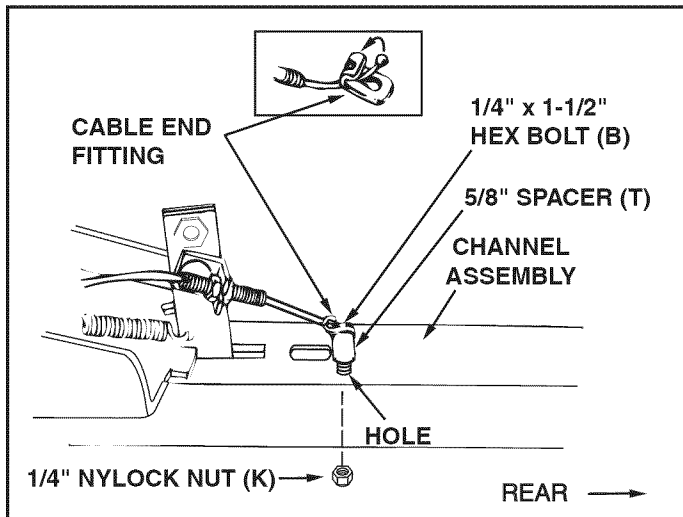

**FIGURE 19 (Left Hand Side View)**
**STEP 5: (SEE FIGURE 19)**
- Assemble one 5/16" jam nut (J) approximately 3/4" onto threaded end of control cable that has no rubber cap or preassembled nuts. Assemble threaded cable end through round hole in cable mount bracket and secure with another 5/16" jam nut (J). **Tighten.**